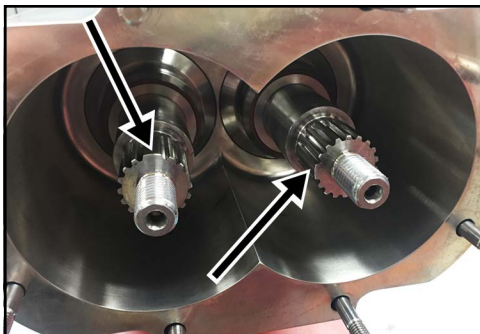

Figure 111 - Align screw and shaft spline
3. Look at the position of the indexing tooth on each shaft spline and roughly align the screw splines to match as shown in Figure 111.
5. (All sizes except 220-UTS) Making sure each screw spline roughly matches the indexing tooth of each shaft spline (see arrows in Figure 111 on page 54), slide the screws onto the shafts as a pair, as shown in Figure 112.